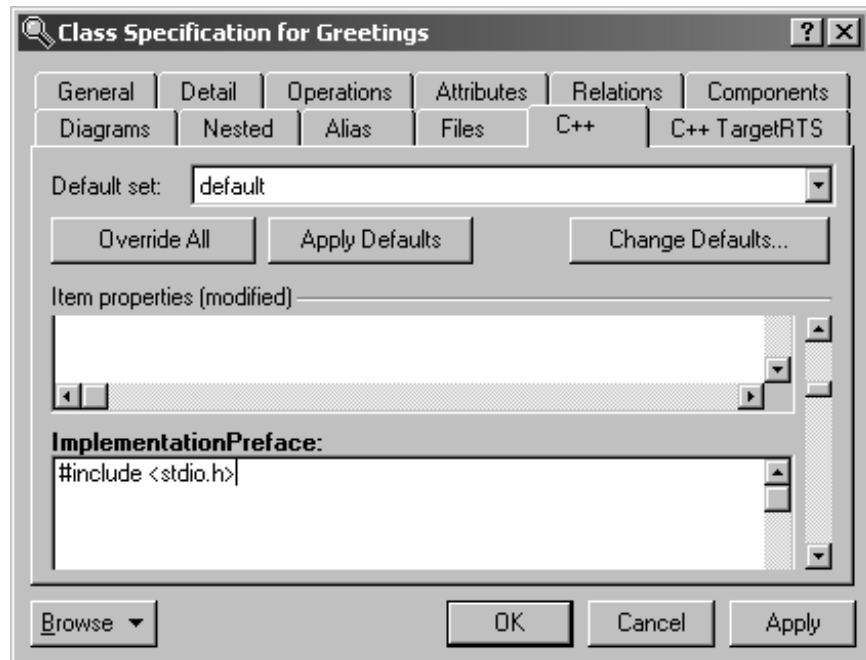

Figure 2.3 - Adding a Library to a Class
- 4.7. Create a parameter named *argv*. (See Figure 2.3.)